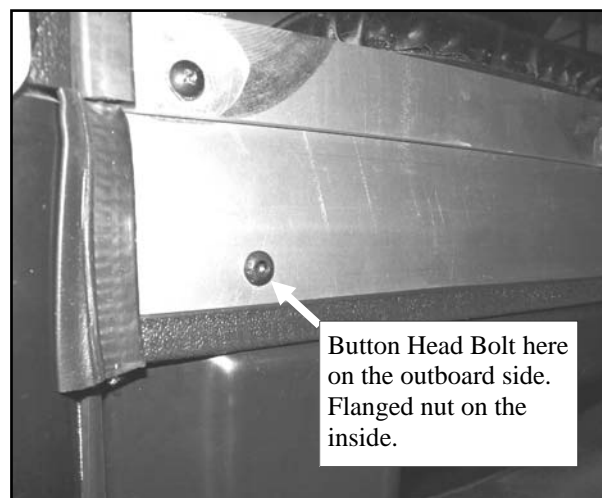

Fig. 9.5 (View of driver's side)
9.5 See fig. 9.5. Press the plastic rear panel against the metal rear panel extension and drill thru the plastic panel using the pre-drilled holes in the metal panel as a guide (one hole per side, two holes total) (9/32" drill bit). Use the following hardware to secure: